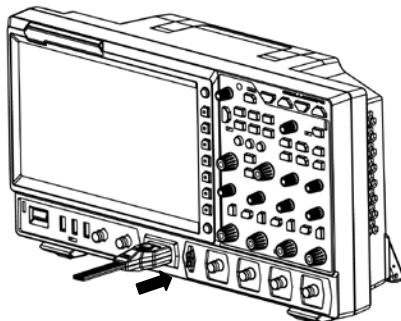

Figure 1-9 To Connect the Logic Probe
1. Connect the output terminal of the logic probe to the digital channel input terminal on the front panel of the oscilloscope in the correct direction, as shown in Figure 1-9.